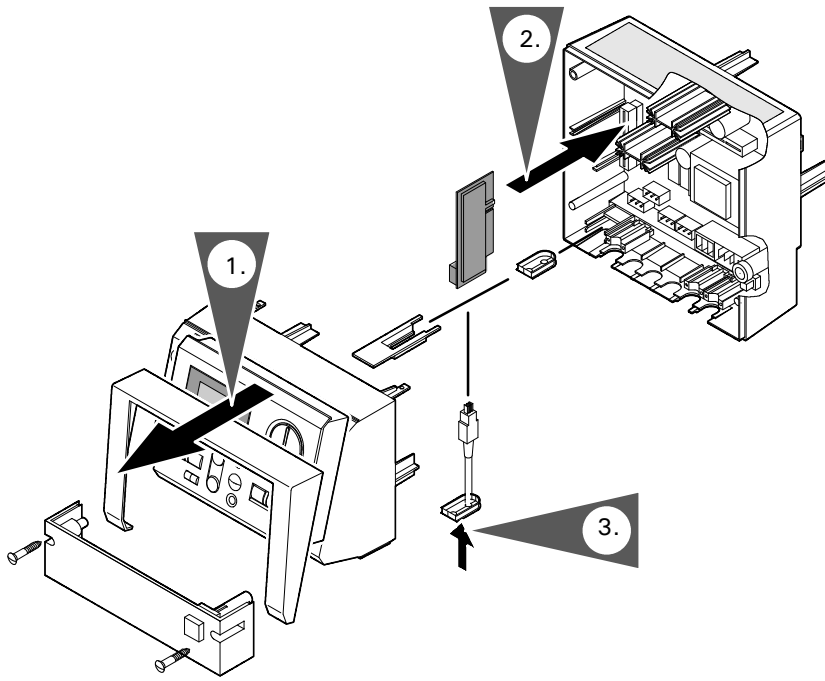

Fig. 46 Mixing valve control
3. See Fig. 46 for maximum possible boiler water temperature and required signal.